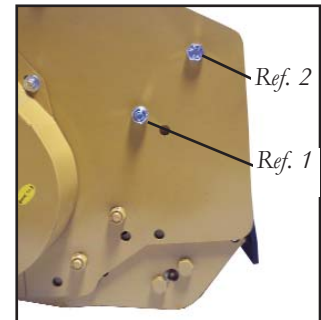

Fig. 13
1. Adjustment of the rear hatch can be made by removing the bolt at the side (*Fig. 13, ref. 1*). Loosen the bolt (*Fig. 13, ref. 2*) until the hatch can be moved. To fix the hatch in the desired position, align the hole in the side of the casing of the machine with the appropriate hole in the hatch. Insert the bolt (*Fig. 13, ref. 1*) and tighten the self-locking nut. Tighten the pivot bolt (*Fig. 13, ref. 2*).